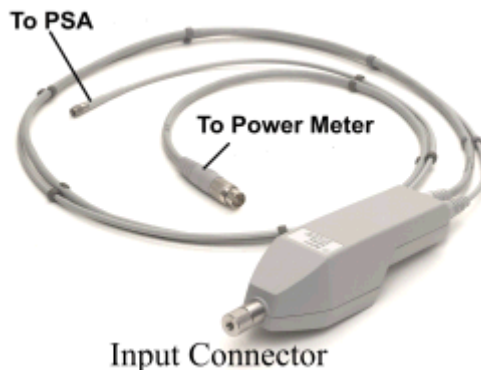

Figure 2-3
3. If possible, ensure the sensor rests flush against a desktop or other support. This helps prevent mechanical damage to the sensor and UUT RF OUT connector. See Figure 2-3, “Connecting the Sensor Module to the UUT,” on page 45.